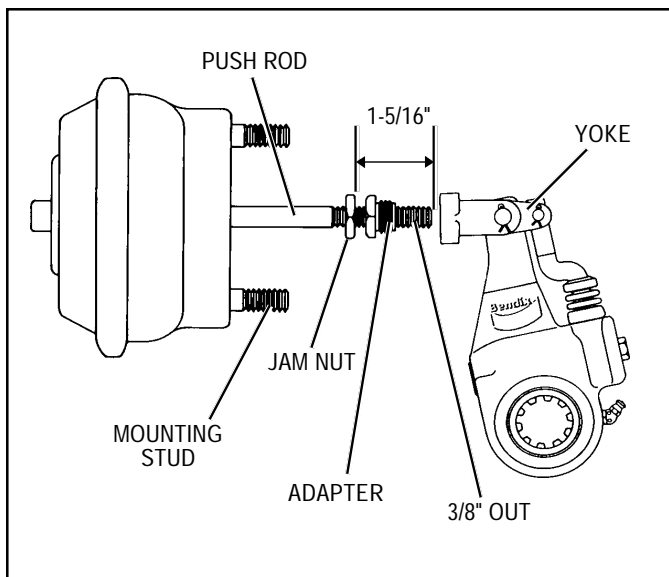

FIGURE 3 - EASY-ON YOKE ASSEMBLY
## EASY-ON YOKE (REFER TO FIGURE 3)
3. If the ASA-5 has the easy-on yoke (see Figure 3), position the brake actuator push rod jam nut approximately 1-5/16 inches from the end of the brake actuator push rod. Thread the easy-on yoke adapter on the brake actuator push rod until it is approximately 3/8 inch from the end of the brake actuator push rod end. Turn the ASA-5 manual adjustment hex clockwise until the adapter extends into the threaded bore of the yoke approximately 1/8 inch. Thread the adapter into the yoke and tighten to 10 foot pounds.
1. If the ASA-5 is equipped with the easy-on yoke assembly illustrated in Figure 3: